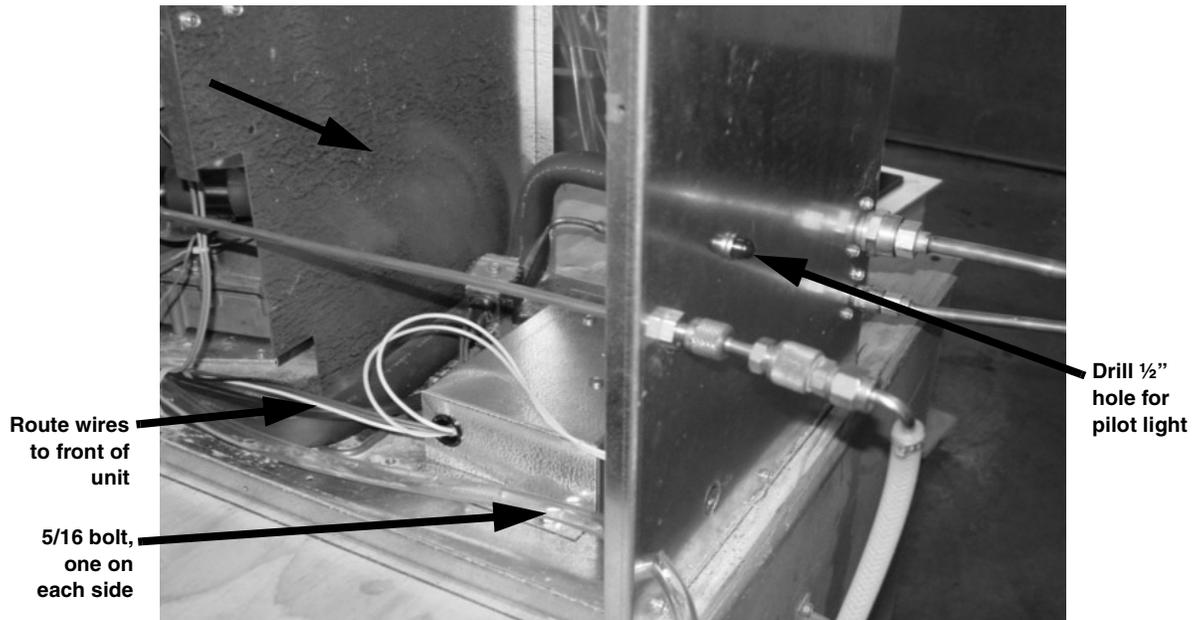

FIGURE 1
3. Install the control box assembly in the rear compartment of the unit. Use the 2 5/16-18 X 1/2 bolts to mount the box to the base (see FIGURE 1).
NOTE: FIGURE 1 shows the hole in the back panel.